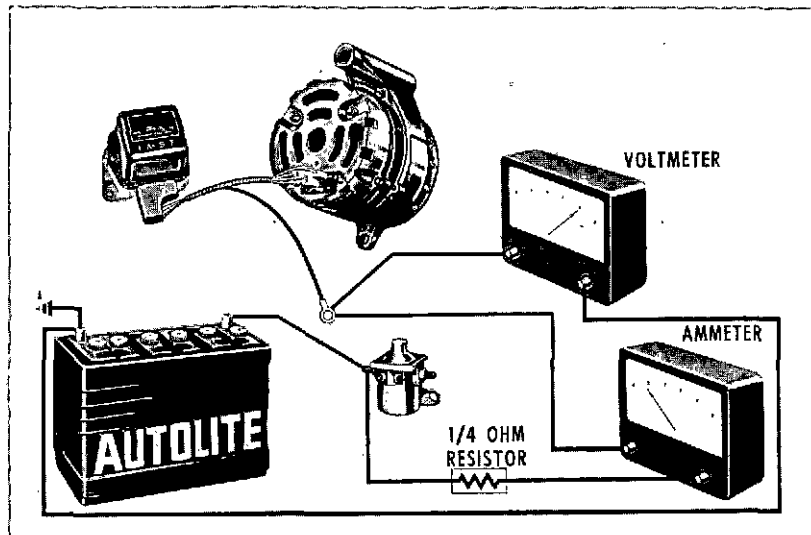

Fig. 9 — Voltage Limiter Test
**TEST CONNECTIONS AND PROCEDURE** — The test connections are shown in Fig. 9. Disconnect the battery ground cable. Remove the alternator lead wire from the battery terminal of the starter relay. Connect a 1/4-ohm resistor and an ammeter in series between the starter relay battery terminal and the removed alternator lead. Also connect a voltmeter between the removed alternator lead and the battery negative terminal.